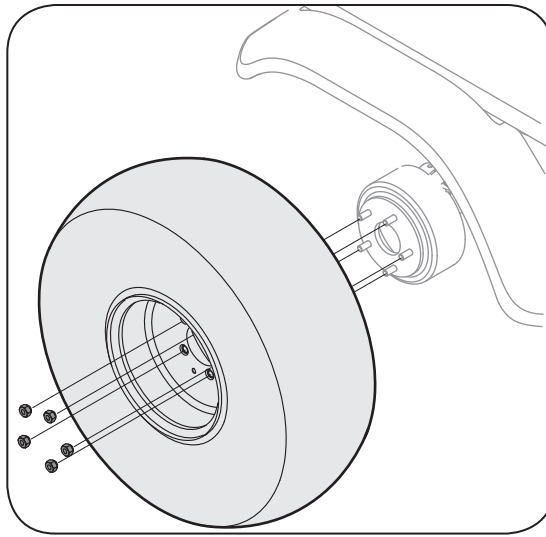

Figure 8
3. Loosen but do not remove the five lug nuts from the axle hub. See Figure 8.